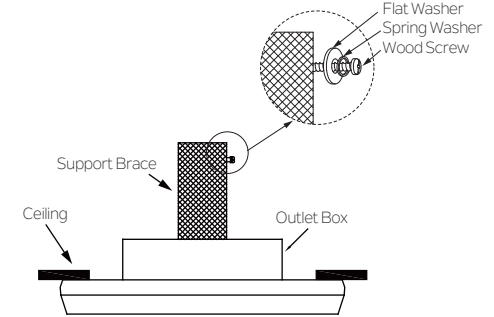

Fig. 11
Step 1 . Slip the spring washer, then the flat washer onto the wood screw, then drive the wood screw into the side of the brace that holds the outlet box. Leave 3mm (1/8") of space between the support brace and the flat washer. (Fig.11)